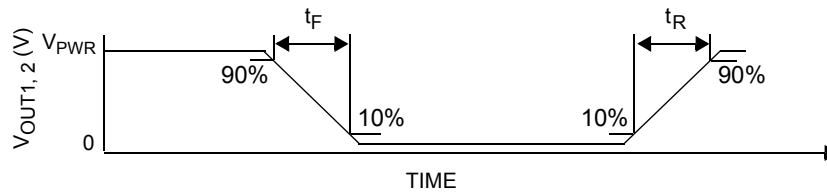

Figure 6. Output switching time
27. Rise Time is from the 10% to the 90% level and Fall Time is from the 90% to the 10% level of the output signal with $V_{PWR} = 24\text{ V}$, $R_{\text{LOAD}} = 3.0\text{ ohm}$. See Figure 6, page 10.